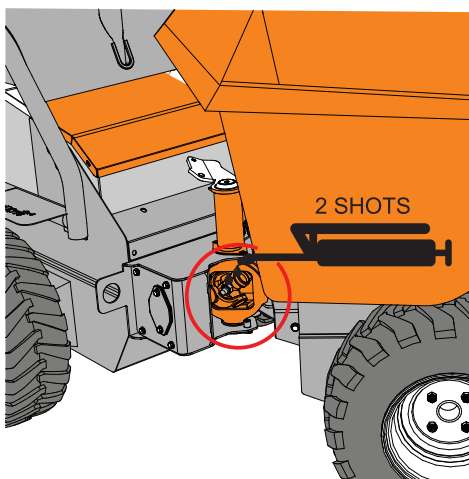

Figure 66. Zerk Fitting Lubrication
1. Lubricate the zerk fitting as shown in Figure 66 using lithium base grease, grade N0.1 once a year. Apply two shots of grease